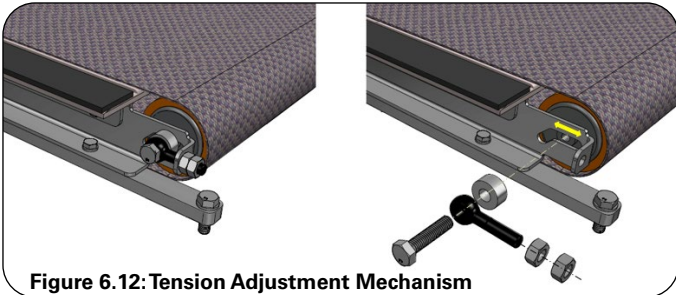

Figure 6.12: Tension Adjustment Mechanism
- c. An adjustment mechanism is provided on each end of the idler roller of the Divert Belt (see Figure 6.12). Both mechanisms are adjusted to provide proper belt tension.